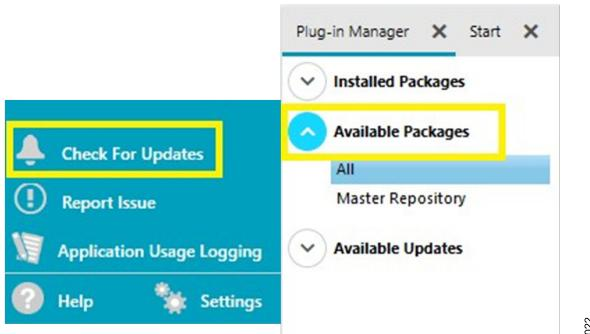

Figure 22. Plugin Manager Option in the ACE Sidebar
2. Run the **ACE** software. Select **Plugin Manager** from the ACE sidebar to install the board plugin that supports the product evaluation board, and select **Available Packages**, as shown in Figure 22. You can use the search field to help filter the list of boards to find the relevant one. An ACE quick start guide is available at ACE Quickstart - Using ACE and Installing Plugins.